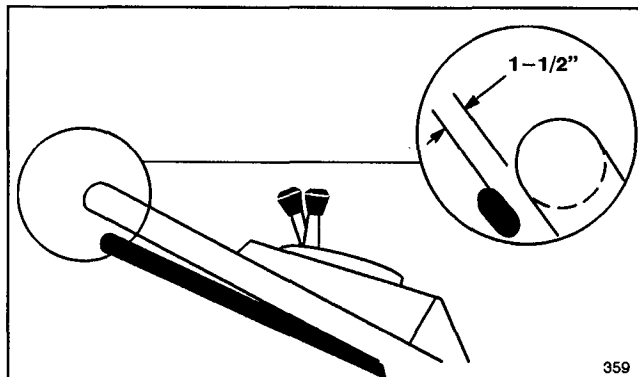

Figure 21
2. CHECK ADJUSTMENT—Adjustment is correct when rear wheels stop turning and control bar is about 1–1/2 inches from handle (Fig. 21).